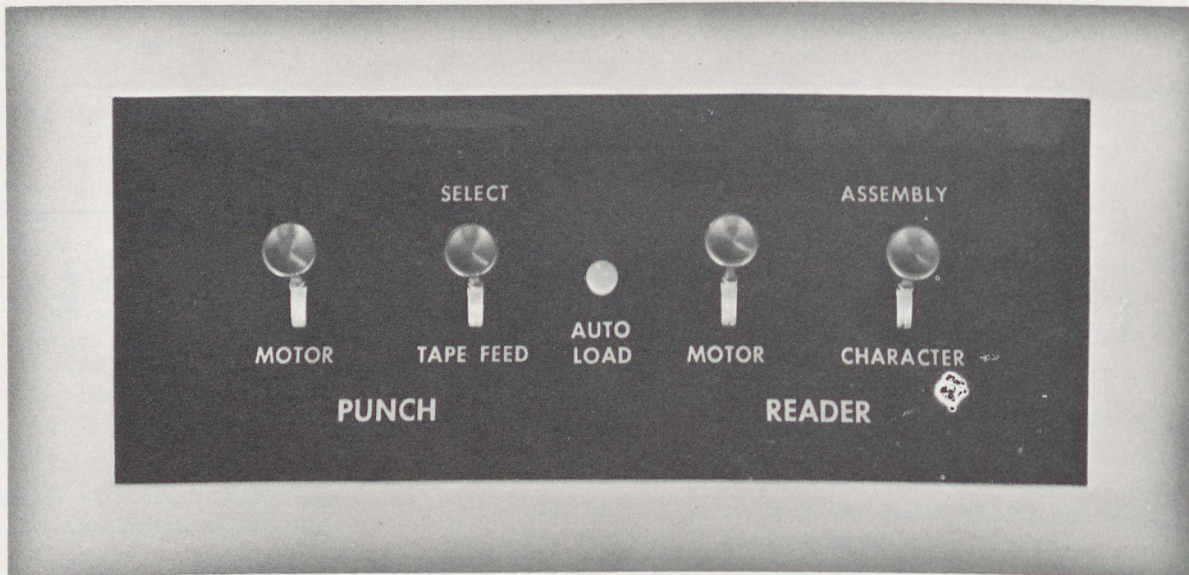

Figure 4-4. Reader, Punch, and Auto Load Controls
- 7) Select the desired mode of operation by the Mode switch (figure 4-4) on the computer panel.
- 8) Turn on Reader switch on computer console (figure 4-4).